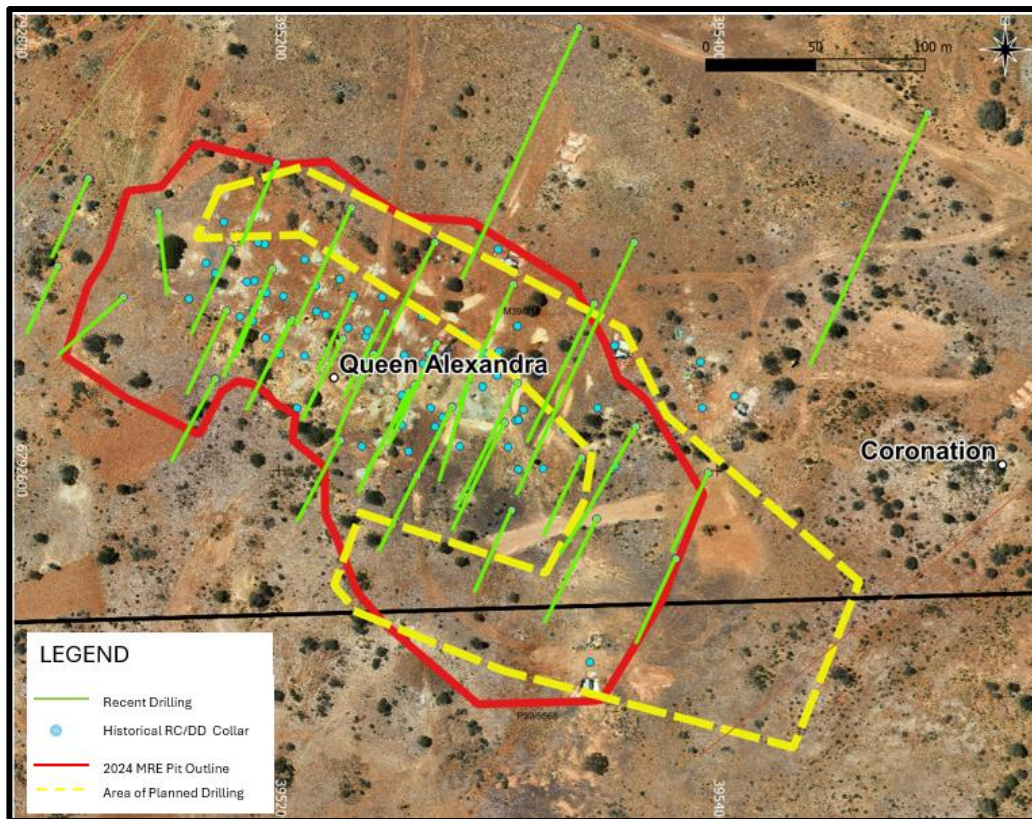

Figure 3: QA area for further drilling (yellow outline)
- Interpretation of the Kestrel Lode has shown it to be open in multiple directions (Figure 3):